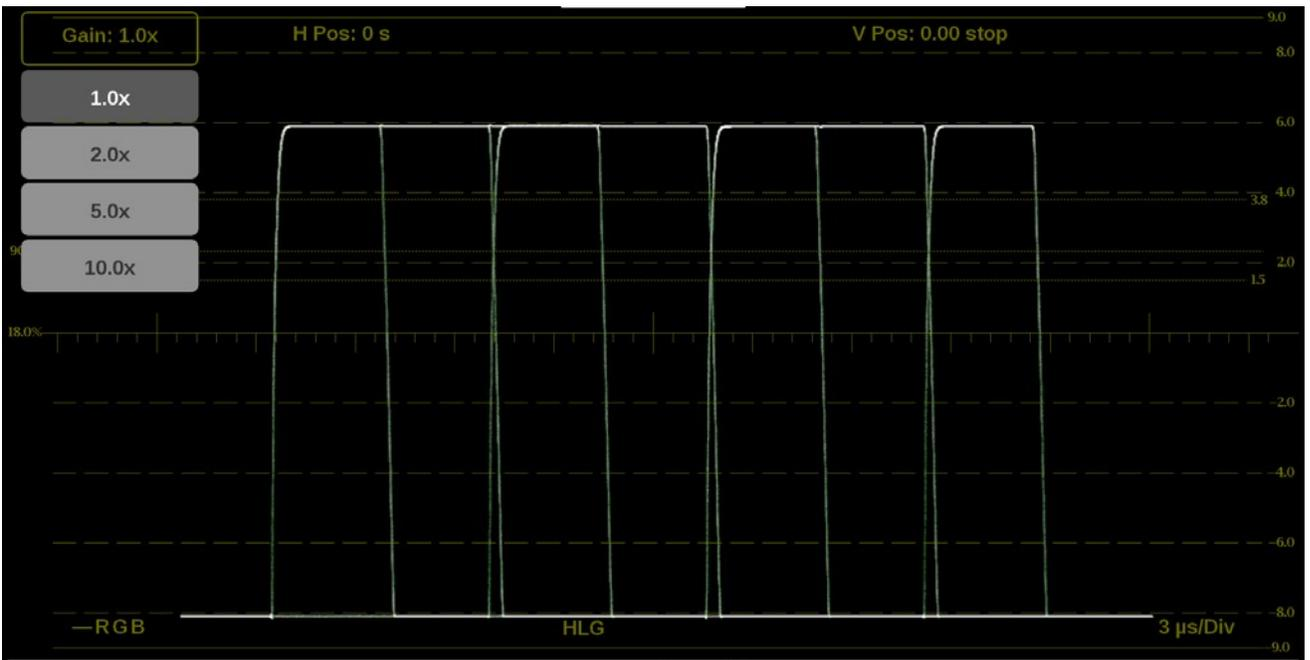

Figure 193: Stop Display on-screen tools–Gain
1. Select the **Gain** button to expand the available magnification options drop-down list. (See Figure 193.)